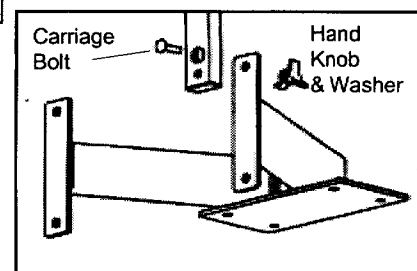
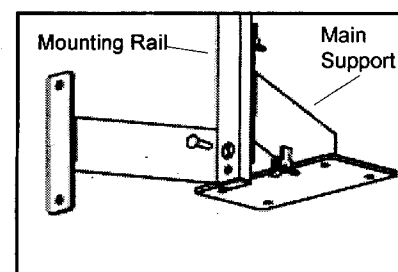
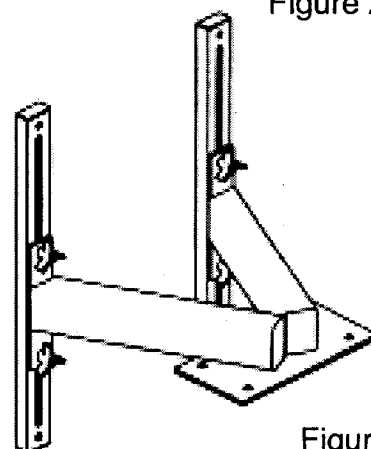

Figure 1
Figure 2
Figure 3
3. Connect the Mounting Rails to the Main Support. There is a large hole through the back of each Mounting Rail. Insert one carriage bolt through this hole such that the threads of the bolt stick through the slot on the other side. Line up the top hole in the flange of the Main Support with this carriage bolt and secure with a flat washer and hand knob, Figure 1. Slide the Mounting Rail up on the Main Support until the bottom hole in the Main Support flange lines up with the hole in the back of the Mounting Rail, and insert and secure the second carriage bolt with a flat washer and hand knob, Figure 2. Repeat this step for the second rail. When you are finished, it should look like Figure 3, with the tops of the two rails at the same level.